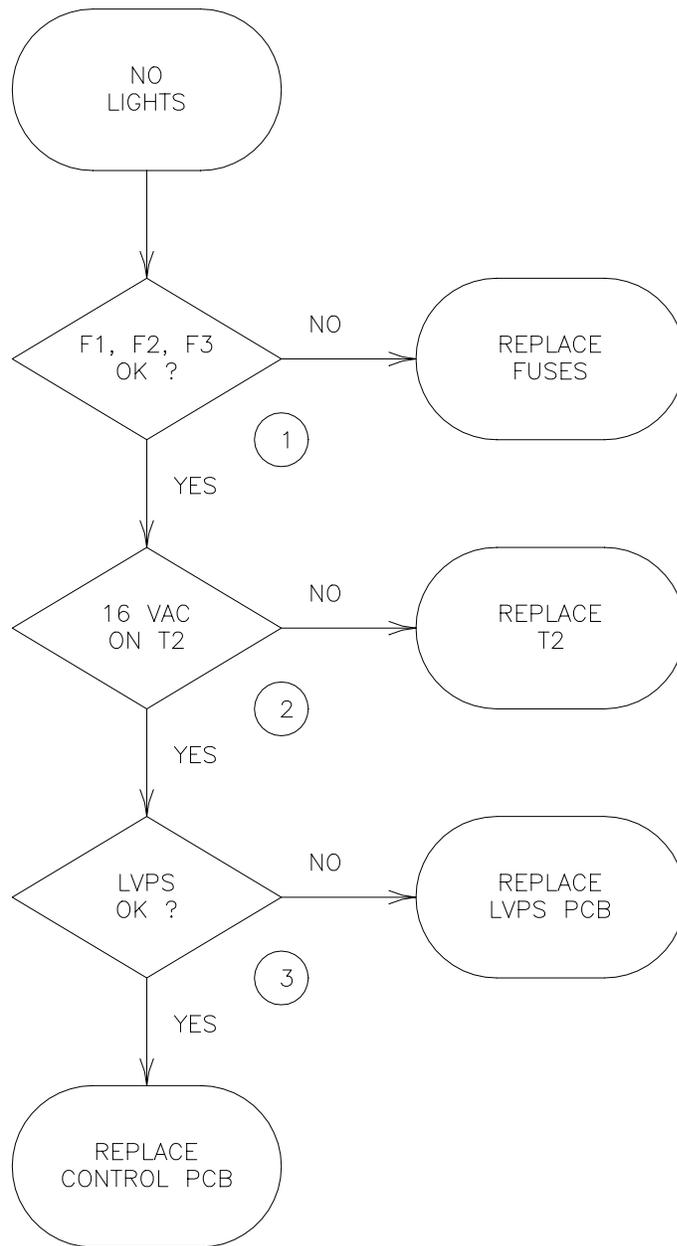

FIGURE 6.3.2 LVPS FLOW CHART
2. Service Procedures - These procedures, figures 6.3.2 through 6.3.6, are used to locate and repair problems which may require removal of input power. Do not use any of these procedures unless instructed to do so by the performance check flow chart.
1. With input power applied and the input circuit breaker closed, at least some panel lights should be on. If there are no panel lights the Low Voltage Power Supply may not work, go to figure 6.3.2.
The numbered comments below correspond to the circled numbers on figure 6.3.2 and provide detailed instructions relative to the referenced step.